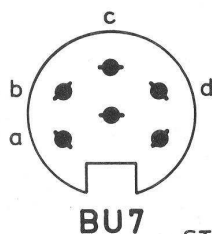

Fig. 9.
- Apply a voltage of 5 V to BU7, the positive to pin b and the negative to pin d, Fig. 9.